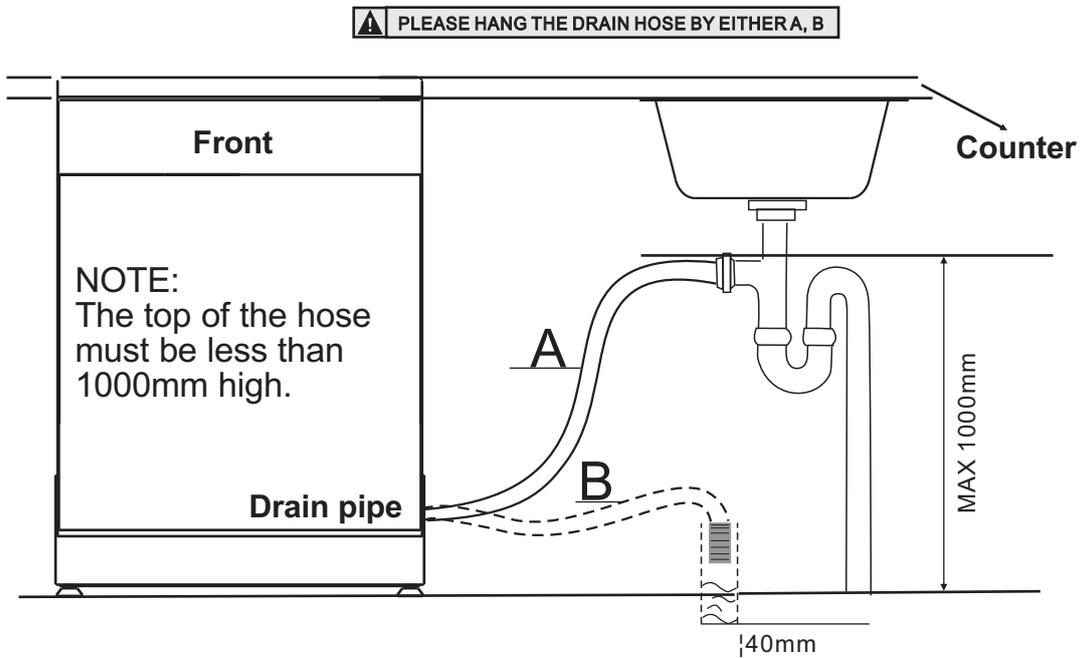

Figure 6
4. Connect the drain hose. Refer to Figure 6).